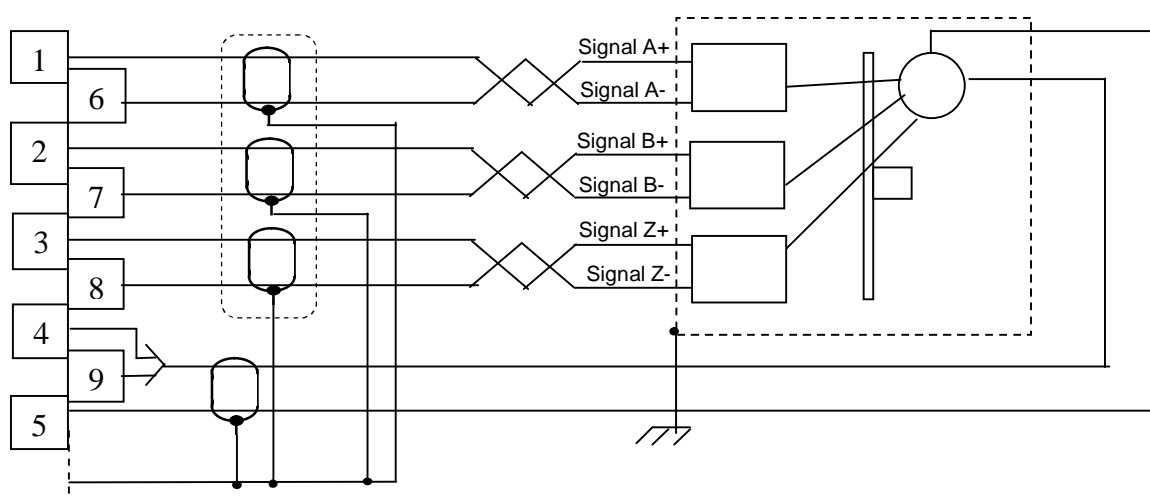

Figure 5.8
5.2.2.7 Encoders are connected to the CNC Unit according to the diagram presented in Figure 5.8.